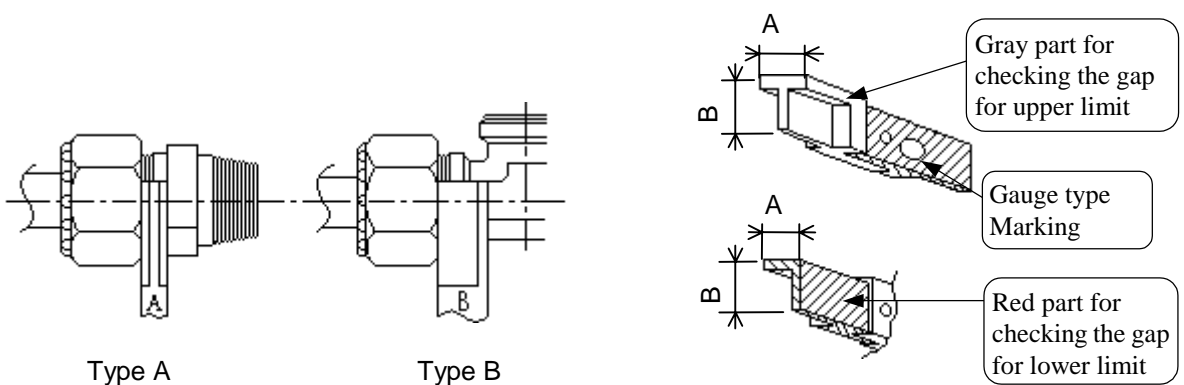

Figure 8. How to use gap gauge
- Using the gray part of gap gauges permits you to check the gap for upper limit. The red part of gap gauges is for checking the gap for lower limit. Determine whether or not a gap gauge can be inserted in the gap, as shown in Figure 8.
(1) Checking the gap for upper limit:
As shown in Figure 8, try to insert the gray part of the gap gauge in the gap between the fitting body and the union nut to **make sure the gray part cannot be inserted**. If the gray part can be inserted, tighten the union nut until the gauge cannot be inserted in the gap.